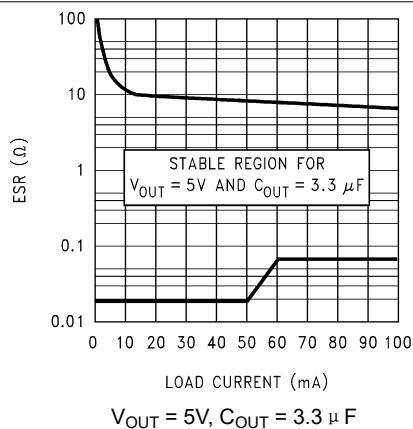
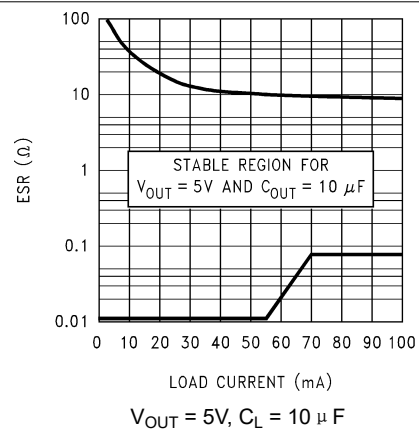
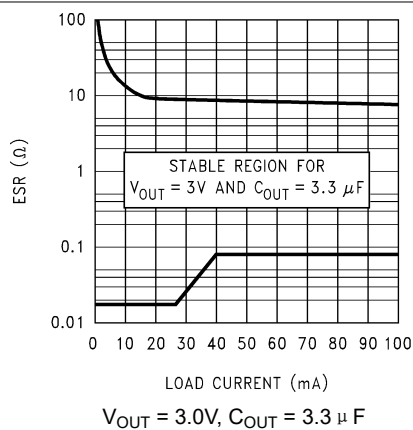

图 7-3. 5V, 3.3  $\mu F$  ESR Curves (Legacy Chip)
图 7-4. 5V, 10  $\mu F$  ESR Curves (Legacy Chip)
图 7-5. 3.0V, 3.3  $\mu F$  ESR Curves (Legacy Chip)
The output capacitor must meet both the requirement for minimum amount of capacitance and equivalent series resistance (ESR) value. Curves are provided that show the allowable ESR range as a function of load current for various output voltages and capacitor values (see 图 7-3, 图 7-4, 图 7-5, and 图 7-6).
- ESR range: See 图 7-3, 图 7-4, 图 7-5, and 图 7-6.